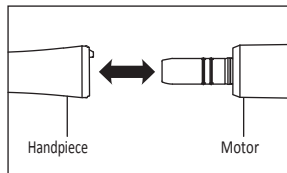

Fig.1
- 1) Insert the handpiece direct into the motor (Fig.1). Turn the handpiece until it clicks and locks into position.